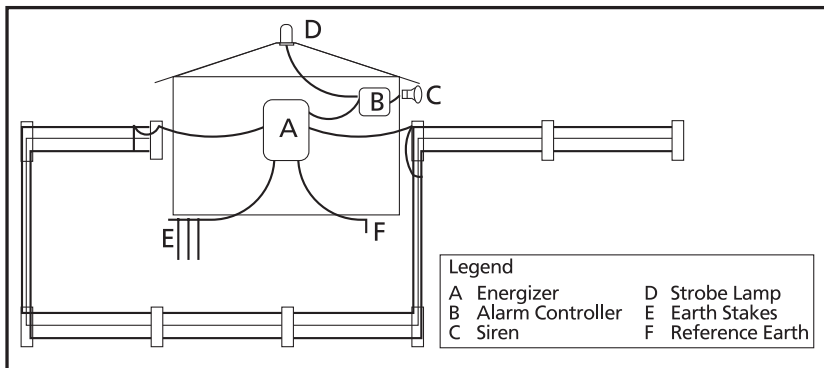

Fig 4.7
- Auto-dialer compatible (see Fig 4.7)